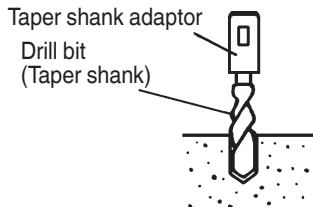

Fig. 14
(1) Install drill bit with taper shank in the taper shank adaptor. (Fig. 14)